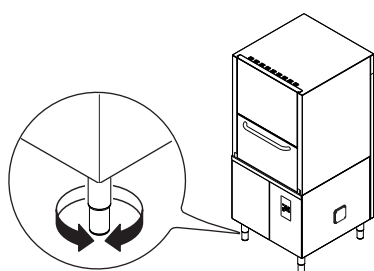

Figure 9 Feet adjustment
- Adjust the equipment by turning the special adjustable feet and making sure it is perfectly level, both lengthwise and crosswise (Figure 9).